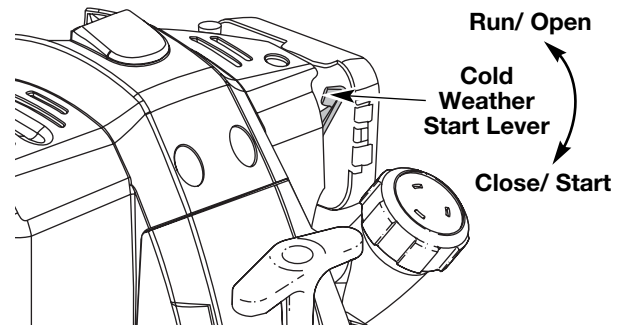

Fig. 11
**IF COLD...** For cold weather conditions (below 40°F), flip the Cold Weather Start Lever (Fig. 11) down to the start/closed position and continue to step 4. **DO NOT** flip this lever down if the temperature is above 40°F.